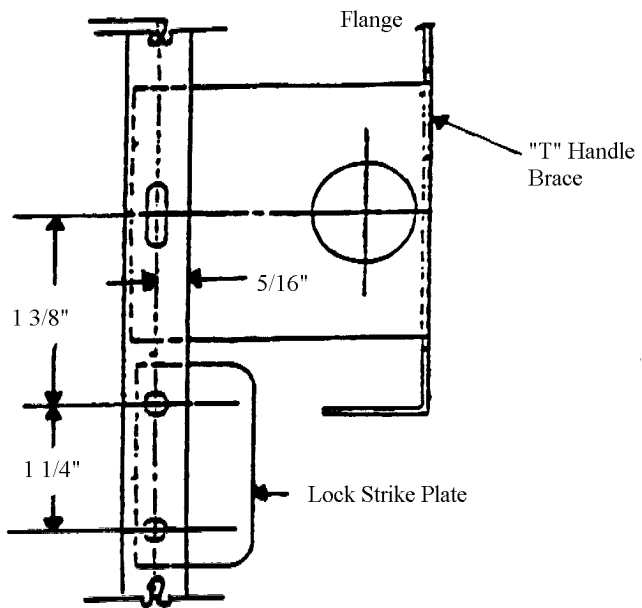

Figure 4
13. Locate the two holes in the flange of the main door for installing the lock strike plate. (See figures 4 and 5 on page 4.)
(B) On venders with out a tie strip, locate the two holes in the flange of the main door for installing the lock strike plate. See figures 4, 5 and 6 on page 4. Then go to step 15.